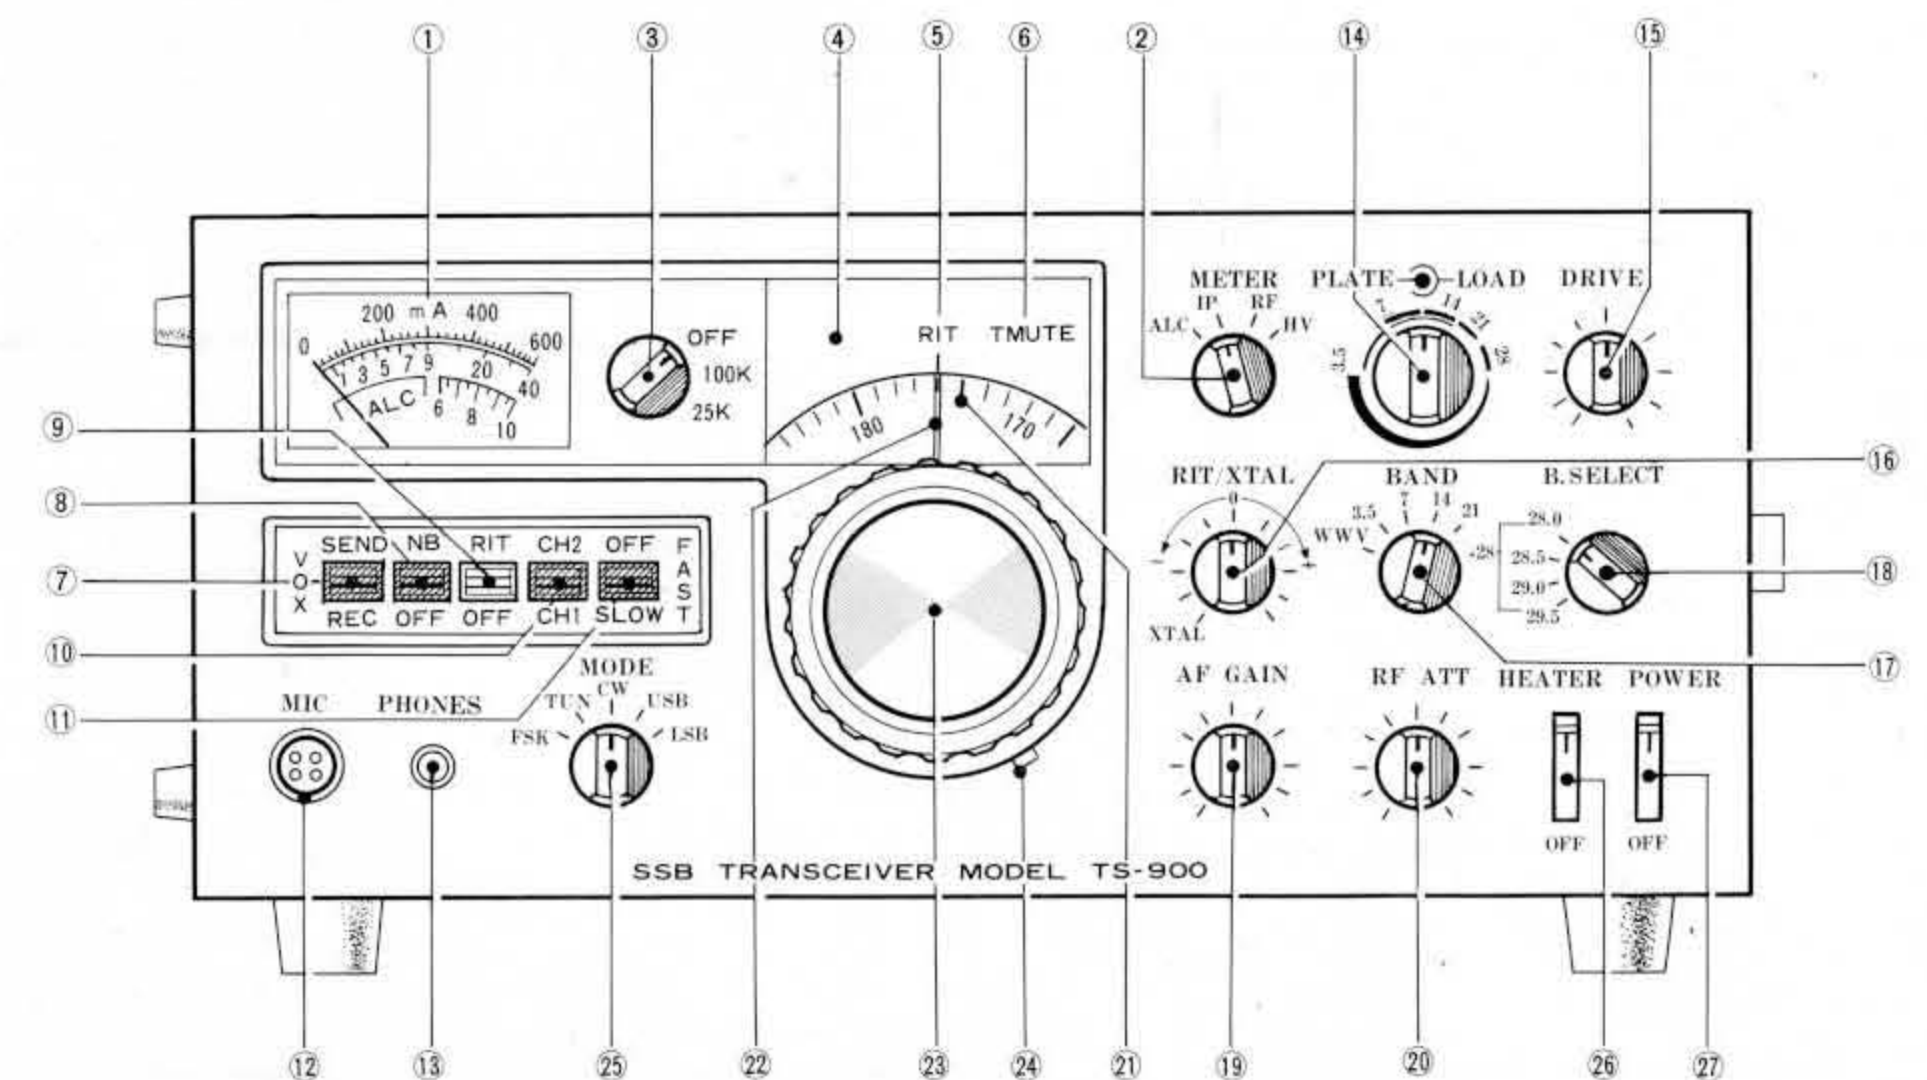

FIGURE 5. TS-900 Front Panel Controls.
AGC SWITCH (11 on Figure 5)
MIC CONNECTOR (12 on Figure 5)
PHONES JACK (13 on Figure 5)
PLATE/LOAD CONTROL (14 on Figure 5)
DRIVE CONTROL (15 on Figure 5)
RIT/XTAL CONTROL (16 on Figure 5)
BAND SWITCH (17 on Figure 5)
B. SELECT SWITCH (18 on Figure 5)